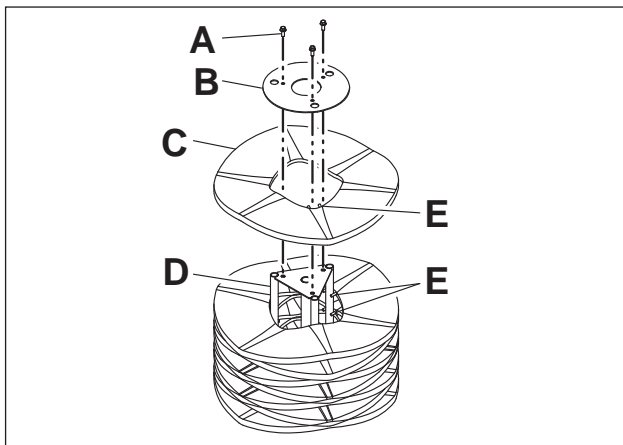

Fig. 009
9. Remove the damaged broom segment(s). Install the new segment(s) by staggering the metal ring alignment fingers as shown in Fig. 009.